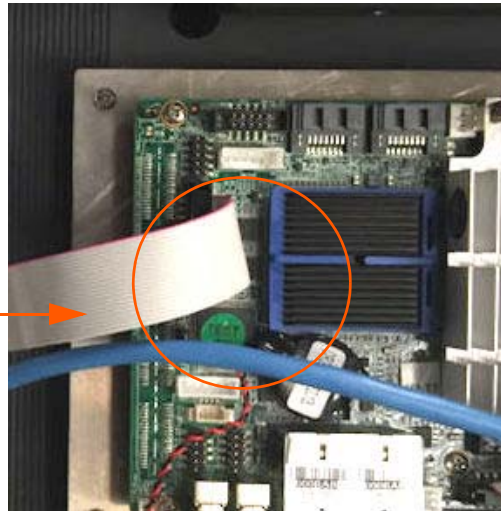

Figure 3.27 Advantech Ribbon Cable Connections
- 2 Connect the cable to a pin in the ribbon cable connector as illustrated in Figure 3.27 on page 3-26.
- 3 Connect the other end to the null modem serial female-to-female cable. See Figure 3.27.